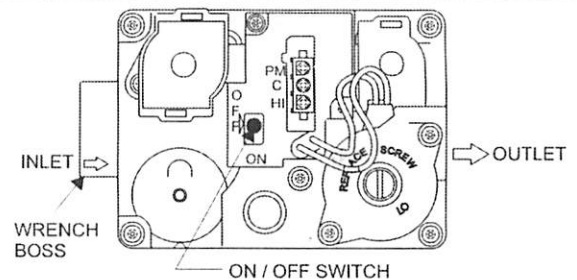

FIGURE 4: Gas Valve - White Rodgers
- Move gas control switch to the "OFF" position. Do not force. See Figure 4.
- Wait five (5) minutes to clear out any gas. If you then smell gas, STOP! Follow "B" in the safety information above. If you don't smell gas, go to next step.
- Move gas control switch to the "ON" position. Do not force. See Figure 4.
- After three (3) trials for ignition, if the appliance will not operate follow the instructions, "TO TURN OFF THE APPLIANCE" and call your service technician or gas supplier.
- Move gas control switch to the "OFF" position. See Figure 4.